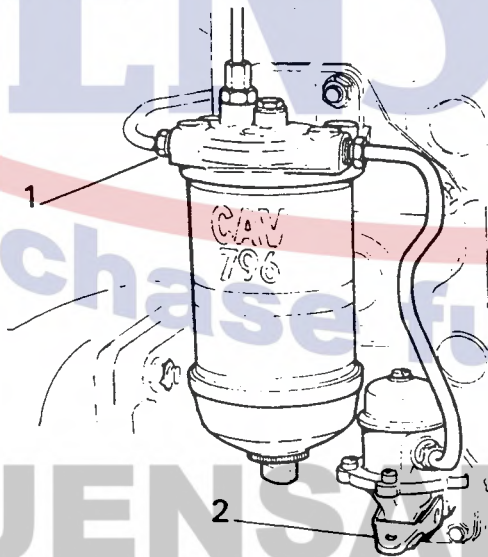
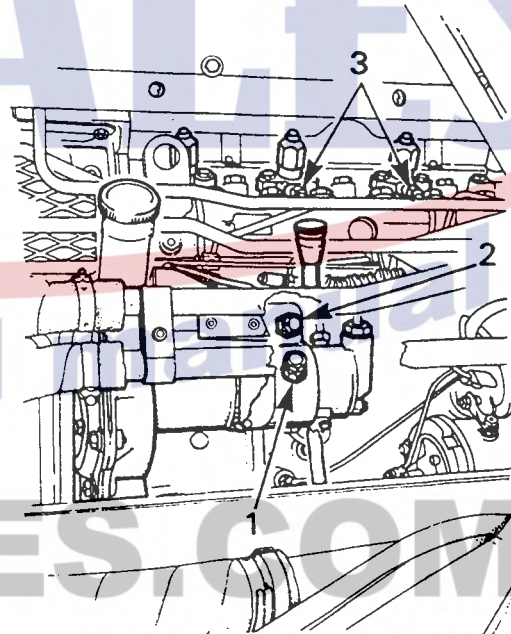

fig 67
fig 68
1. Figure 67 Slacken the outlet union on the fuel filter (1).
2. Operate the pump priming lever (2) on the fuel lift pump until fuel, free of air bubbles, issues from the union, then re-tighten the union.
3. Figure 68 Slacken the lower vent plug (1) on the fuel injection pump and operate the fuel lift pump until fuel, free of air bubbles issues from the vent, then re-tighten the vent plug.
4. Slacken the upper vent plug (2) on the fuel injection pump and operate the priming lever until fuel, free of air bubbles issues from the vent, then re-tighten the vent plug.
5. Slacken the unions (3) at the numbers one and four injectors.